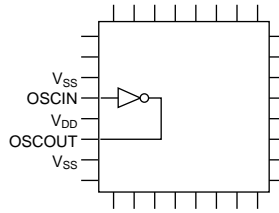

Figure 8-4 Example of the Placement of Critical Signal Pins – 2
- b) Place the oscillator circuit's input/output pins (OSCIN, OSCOUT) close to each other, separated from other pins by the power-supply pins (V_{DD} , V_{SS}). Do not place output pins that are synchronous to the oscillator circuit near said pins (Figure 8-4).